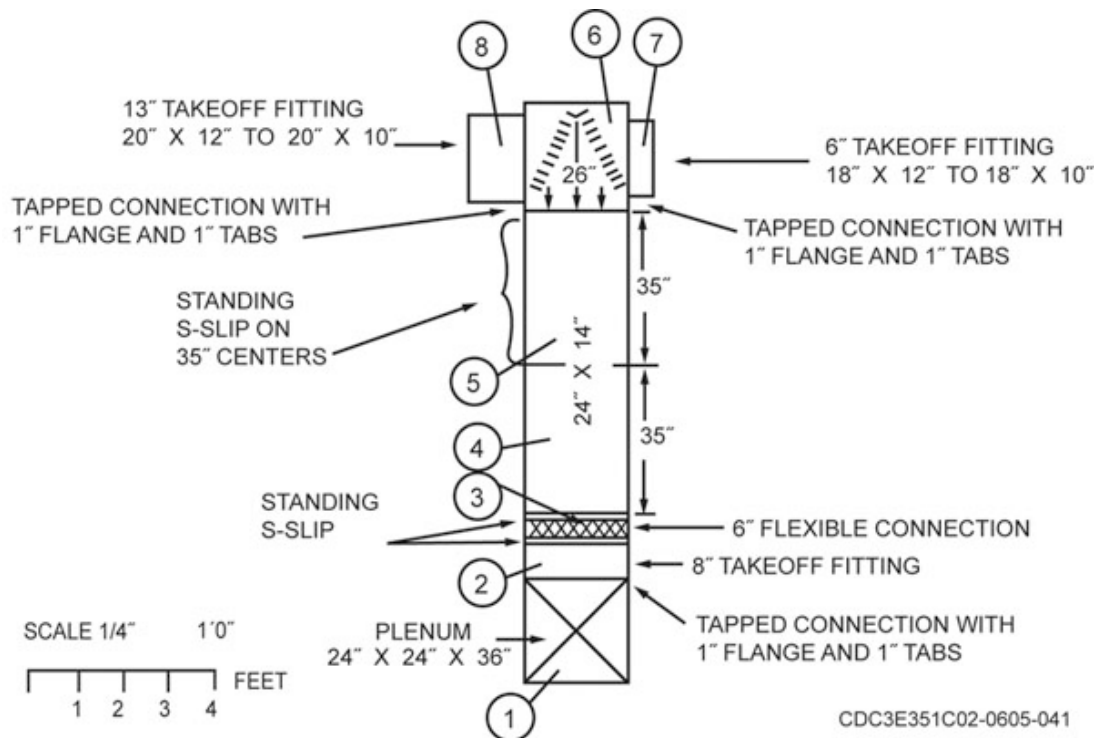
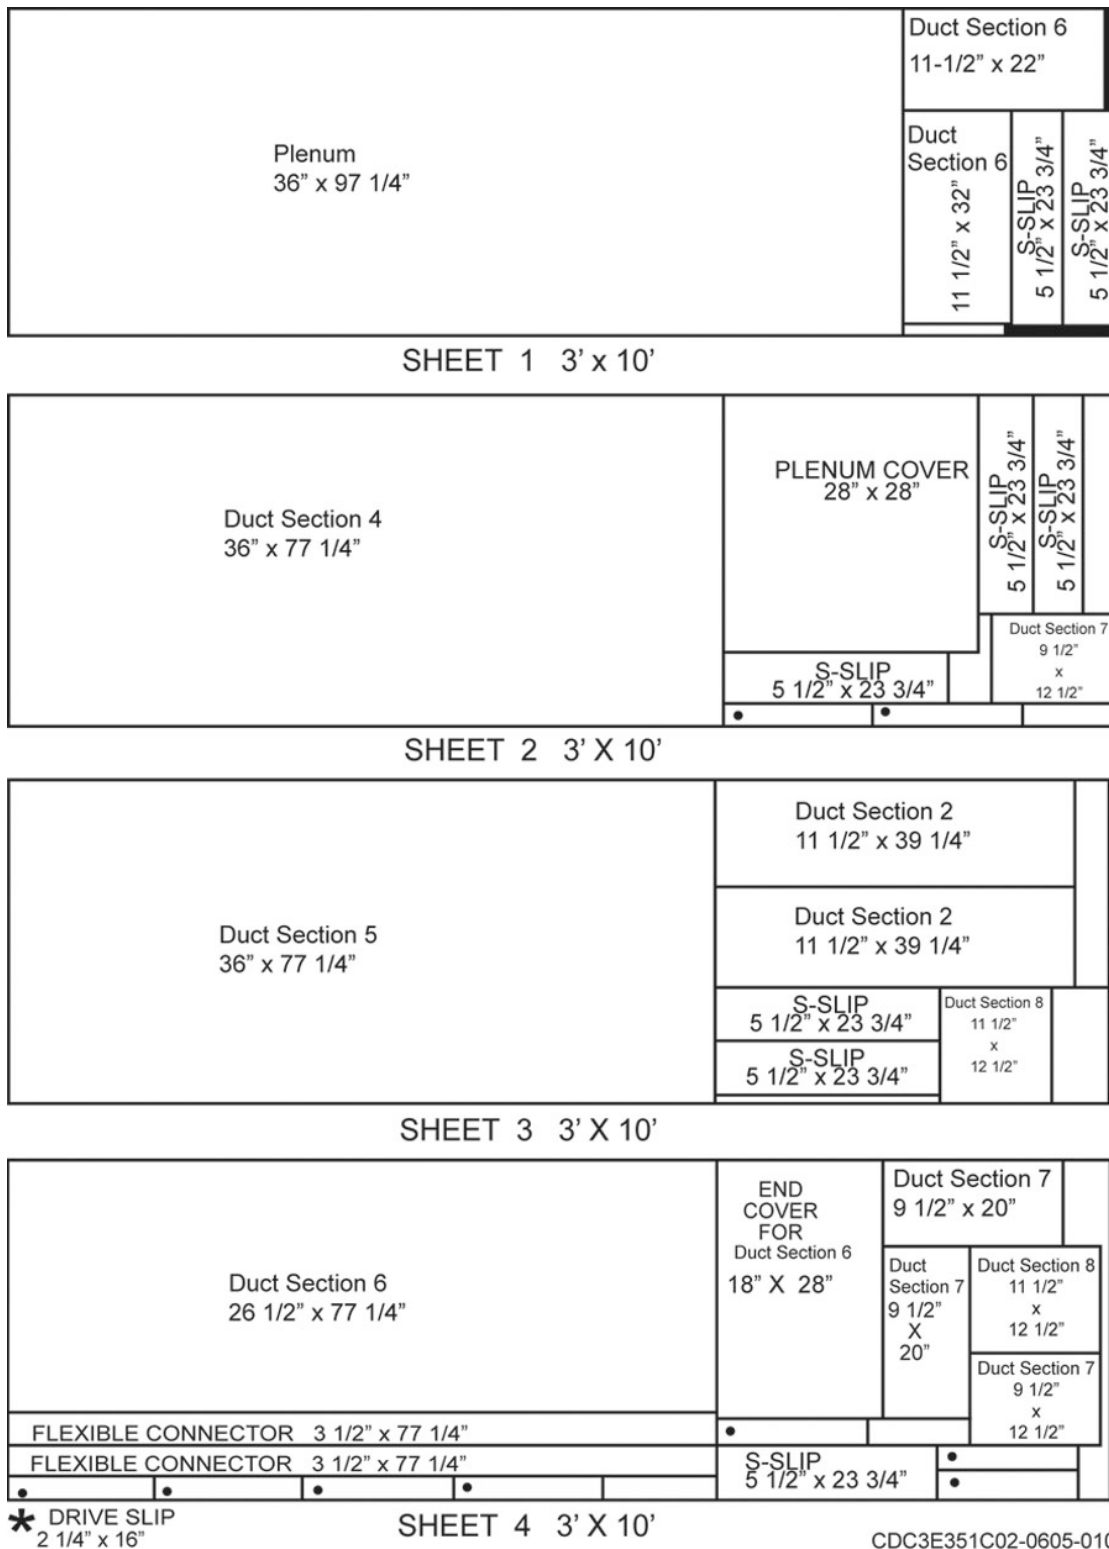

Figure 1-18. Breakdown of plenum and trunkline "A."
Figure 1-20. Determining size and quantity of sheet metal for plenum and trunkline "A".
Figure 1-18 shows a breakdown of trunkline "A" in FO 1. This shows how you divide trunkline "A" into sections and takeoff fittings. To break down a trunkline like this, your *first* step is to make a scale drawing of the plan view, showing only the outline of the trunkline.
So far, we've determined the material required for two patterns. To do this job, you need one whole 3' x 10' sheet (with 36" x 22¾" left over) and another sheet from which you can make the 28" x 28" cover. This is the information needed to develop a bill of material list. Since you may need to make numerous components, we suggest that you create a bookkeeping system to identify the parts by size and quantity, to identify the sheet from which the pattern comes, and to indicate the size and number of sheets needed. Figure 1-19 is an example of such a record. To avoid waste, you'll also find it helpful to make a sketch of each metal sheet, showing how the patterns are to be arranged. Figure 1-20 shows how you can make the trunkline and plenum from four sheets. The sequence for determining the size and quantity of sheets required is a three step process:
1. Make a drawing, like figure 1-18, showing the dimensions of the ducts and joints.
3. Make sketches of the sheets, as in figure 1-20.
First, write "plenum" in the Item Identification column, followed by the dimensions and number of patterns needed. Since we already determined a 3' x 10' sheet will be used, enter this information in the Source of Material column. At this time, sketch sheet number 1 (fig. 1-20), showing the plenum as 36" x 97¼" with a single piece 22¾" x 36" left over. This piece isn't large enough to make the 28" x 28" plenum cover. (A leftover piece from joint 4 in sheet 2 will be suitable for the plenum cover.) The second entry in figure 1-19 is for the plenum cover, including its size and the quantity needed. You enter the source of material later.
Trunkline "A" has the same dimensions (24" × 14") for its entire length. Therefore, its stretchout, including Pittsburgh lock seam allowance, is 77 1/4 inches. Its length, as we previously determined, is 9 feet 2 inches, which we can divide into duct sections as shown in figure 1-18. Beginning with duct sections 4 and 5, enter the pattern dimensions and requirements on lines of the materials chart (fig. 1-19). These patterns, including allowances, are each 36" × 77 1/4" and should be made from two 3' × 10' sheets with two 36" × 42 3/4" pieces leftover. (You can then use one of these leftover pieces to make the plenum cover.) You determine these dimensions by making sketches of sheets 2 and 3, as we show in figure 1-20. In figure 1-18, you can see joints 4 and 5 occupying only 70 inches of the total length (110 inches) of trunkline "A". This leaves 40 inches for duct sections 2, 3, and 6.
We determine the size of duct section 6 by the size of its two takeoff fittings and the size of ducts 2 and 3. Remember that only 40 inches are available for duct sections 2, 3, and 6. In figure 1-18, you can see how you use these 40 inches to make ducts of appropriate sizes. Section 6 is shown to be on 26-inch centers and is connected to duct section 5 with S and drive slips. The pattern for duct section 6 measures 26 1/2" × 77 1/4". This requires part of another whole sheet (sheet 4, fig. 1-20), with two leftover pieces. One of these pieces is large enough to make the 18" × 28" end cover for duct section 6. The duct section 6 entry is made in figure 1-19 and the sketch made on figure 1-20 for duct section 6 and its end cover. This end cover is to be installed with standing seams like the plenum cover.
Duct section 2 in figure 1-18 shows a 24" × 14" takeoff fitting. With seam and joint connection allowances added, it needs a pattern 11 1/2" × 77 1/4". You can make this pattern from the leftover material from joint 5 (sheet 3) if you make it in two pieces 11 1/2" × 39 1/4" (making the duct in two pieces requires two Pittsburgh lock seams). You now make the line entry for duct section 2 in figure 1-19 and make the sketches on sheet 3 of figure 1-20.
Duct section 7 in figure 1-18 is a takeoff fitting 6 inches long, which reduces from  $18'' \times 12''$  to  $18'' \times 10''$ . It has a tapped connection at one end and S and drive connections at the other. Since this transition tapers on two sides, make it in four pieces and assemble it with four Pittsburgh lock seams. The pattern for each piece is  $9\frac{1}{2}''$  inches wide (6 inches in length plus 3 inches allowance for the tapped connection and  $\frac{1}{2}$ -inch allowance for the S and drive connection). The two patterns for the top
Duct section 8 in figure 1-18 is a takeoff fitting 8 inches long, which reduces from  $20" \times 12"$  to  $20" \times 10"$ . It's the same shape as duct section 7 but has different dimensions. Duct section 8 requires four pieces and four Pittsburgh lock seams. You can make the two  $11\frac{1}{2}" \times 22"$  pieces for the top and bottom from the leftover piece from the plenum (sheet 1). You can make the two  $11\frac{1}{2}" \times 12\frac{1}{2}"$  sidepieces from leftover pieces in sheets 3 and 4.
The *last* step in determining the size and quantity of material for trunkline "A" involves the standing S slips and drive slips needed to connect the joints. In figure 1-18, you can see where S slips and drive slips are needed in four places. This means you need eight standing S slips, with  $5\frac{1}{2}" \times 23\frac{3}{4}"$  of metal each. The eight drive slips need  $2\frac{1}{4}" \times 16"$  of metal each. According to the sketches in figure